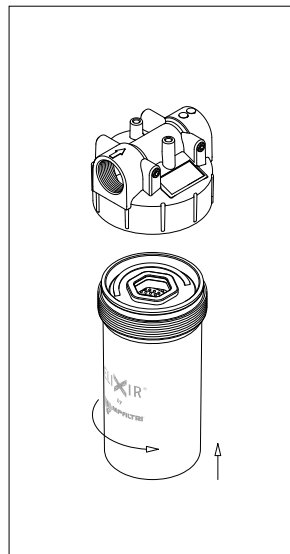

fig. 15
- (Fig. 15) Fit the filter element on the tap and screw the bowl in referring to the tightening torque table in paragraph 3. Pay attention not to damage the seals